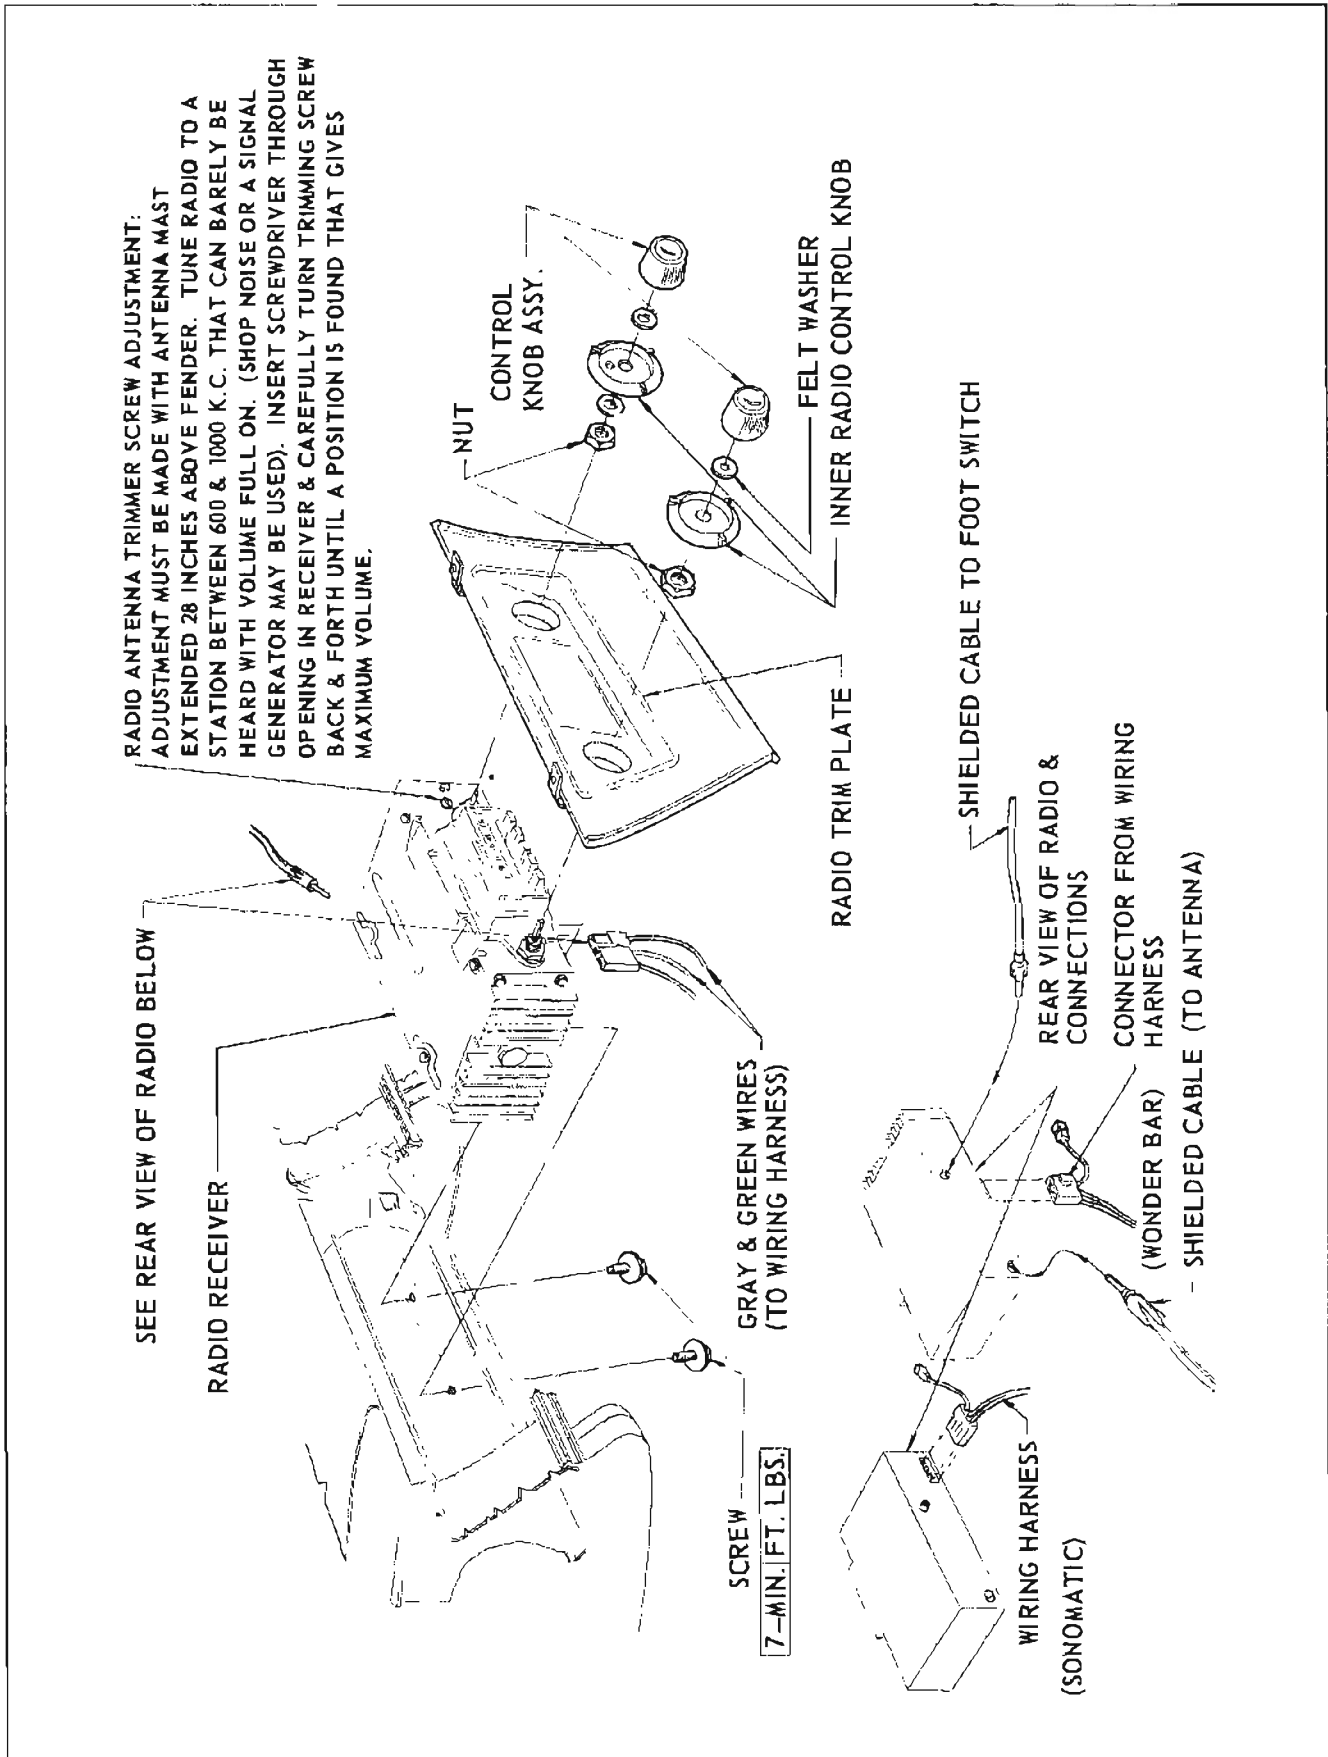

Figure 11-7—Radio Receiver Installation - 4700 Series
3. If car is air conditioned, remove two screws holding air conditioner center outlet assembly to radio trim plate (see Figure 11-7) and lift off center outlet assembly, and also center outlet duct.